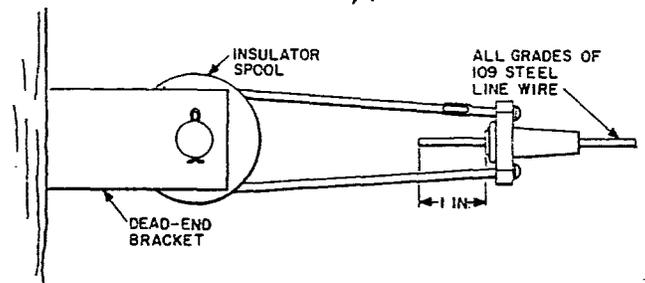

Fig. 7—Wirewise Installed on 109 Wire Line
- (1) Remove the bail from the yoke by squeezing slightly and pushing until the flat section slips through the slot in the yoke.
- (2) Pass the bail around the spool insulator of the dead-end bracket, then force the flat section of the bail through the slot in the yoke and pull until the ends of the bail rest firmly against the yoke.
- (3) Pull the wire to proper tension and cut it so one inch will extend beyond the rear end of the cartridge.
- (4) Insert the end of the wire in the small end of the cartridge and push it through until all the slack is taken up.
- (5) Apply tension to the Wirewise by slowly releasing the slack blocks or wire puller. Fig. 7 shows Wirewise installed.